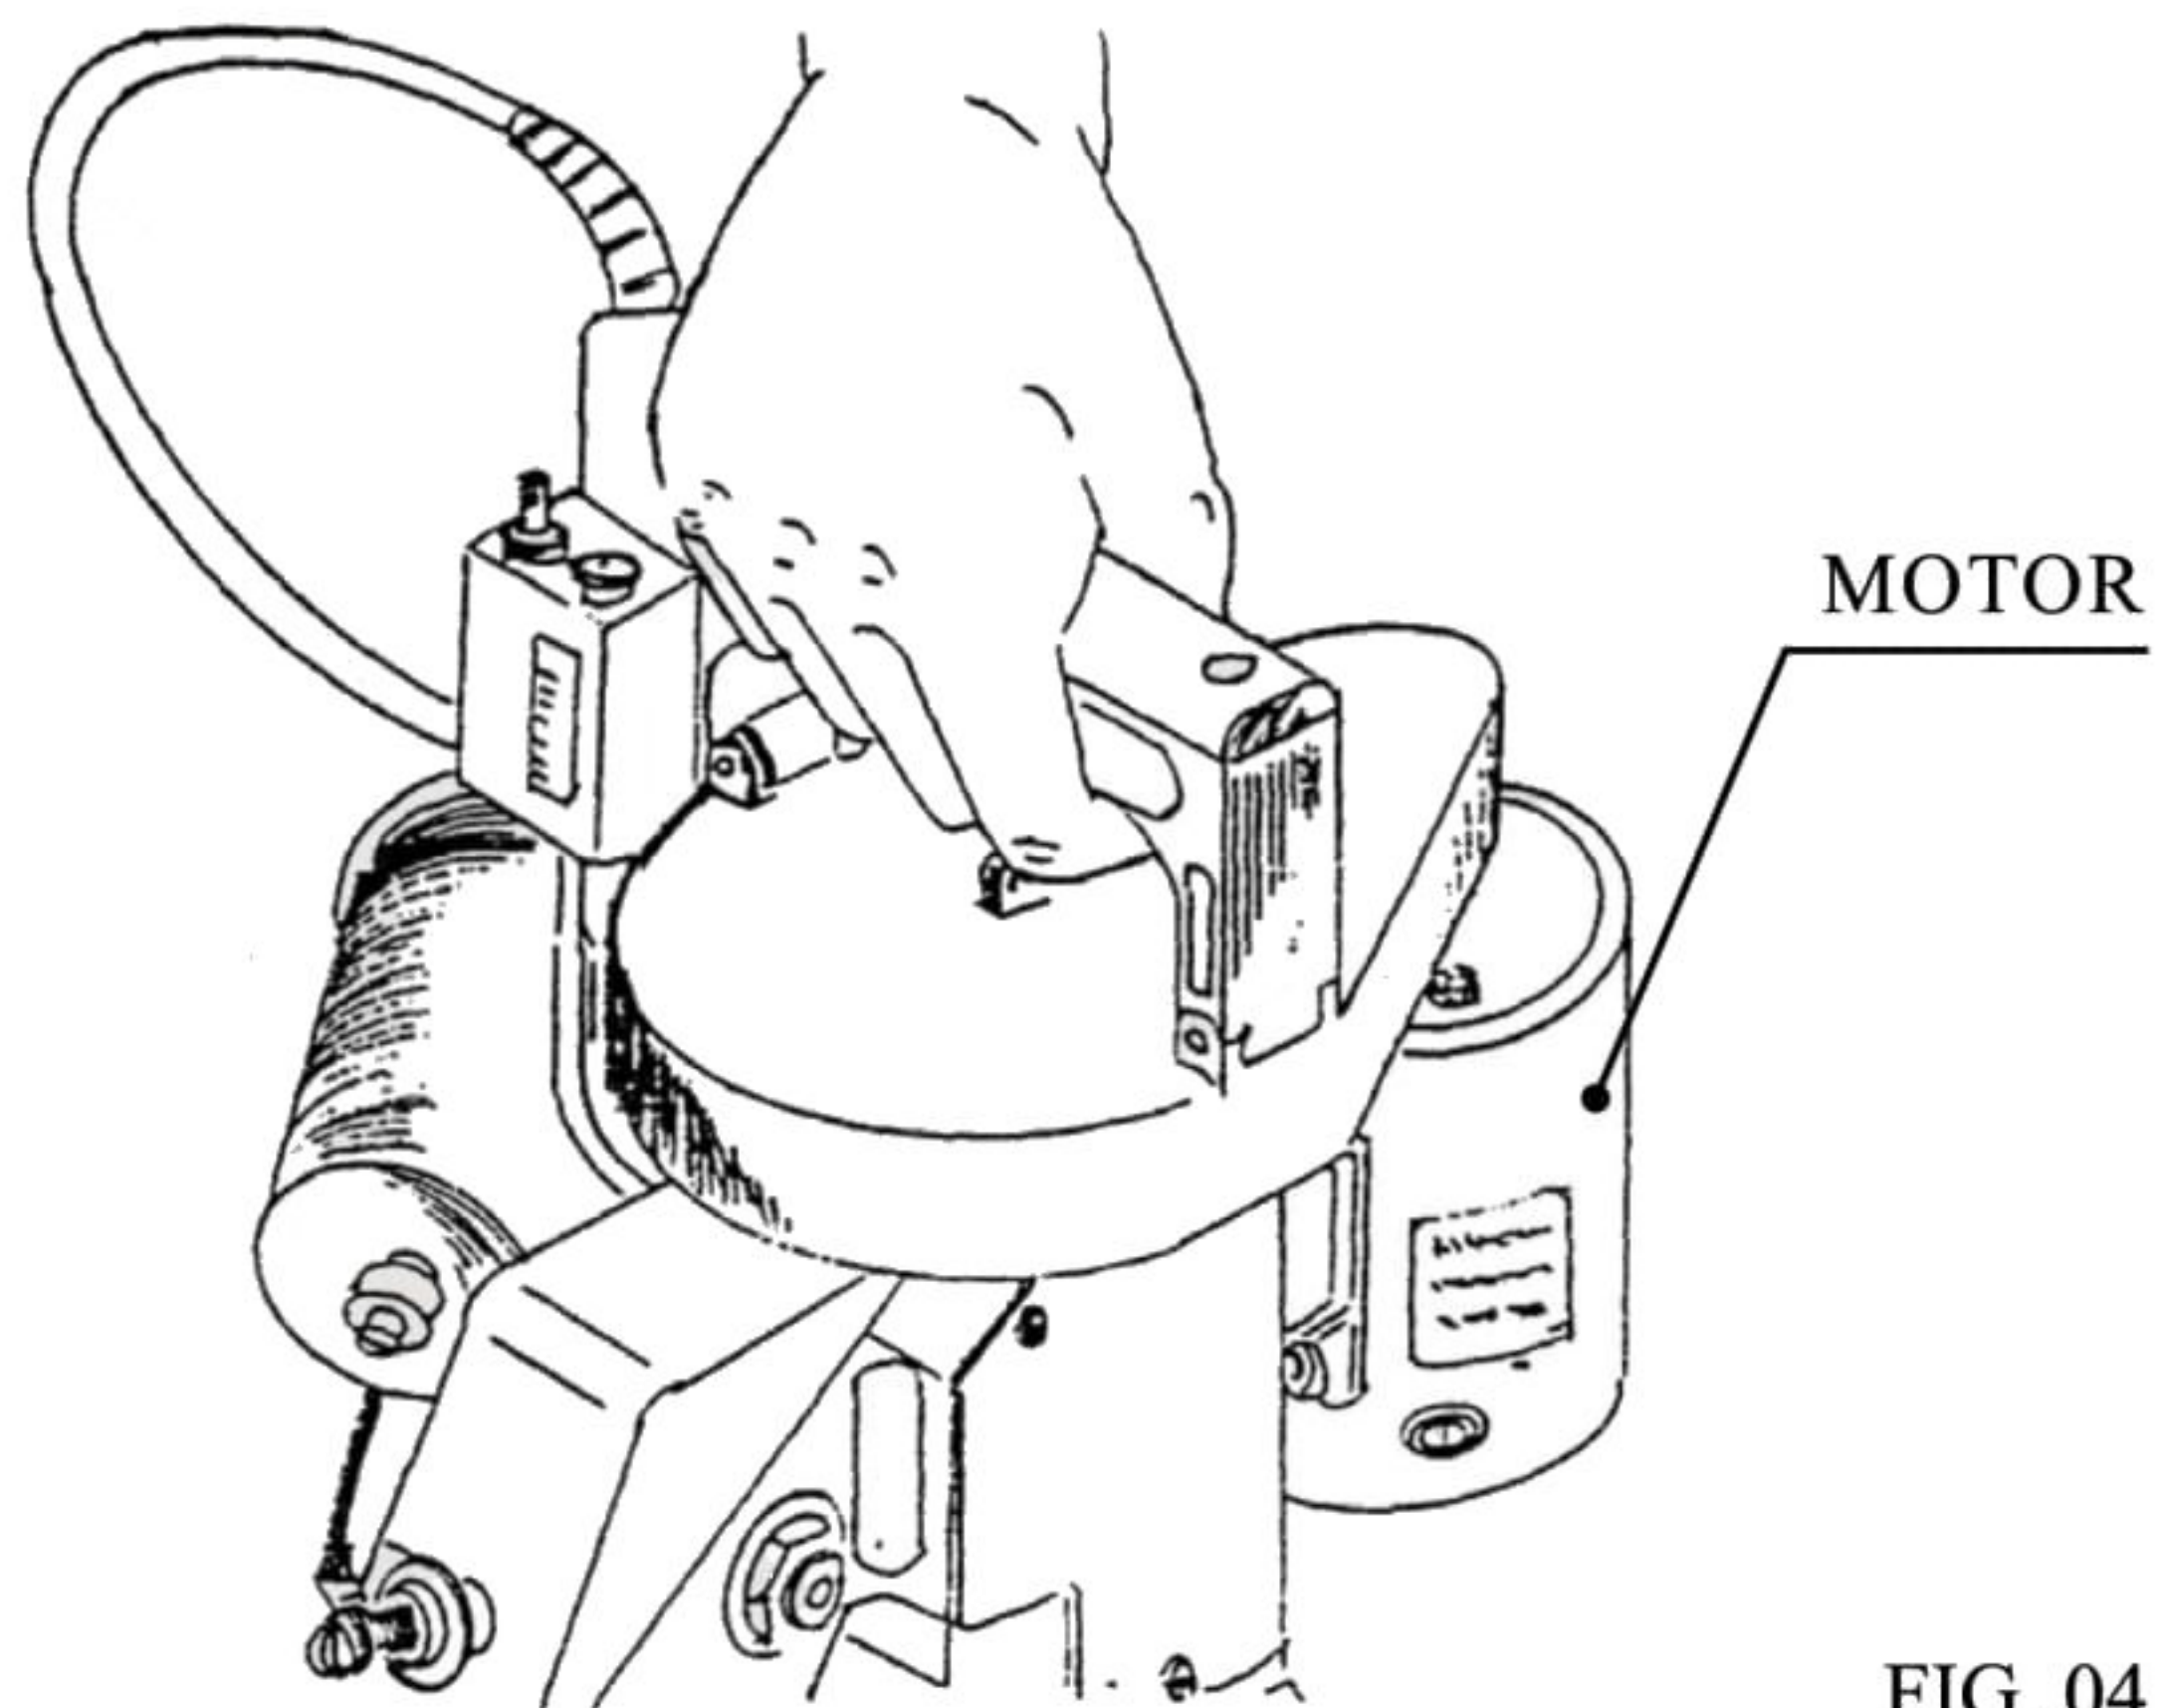
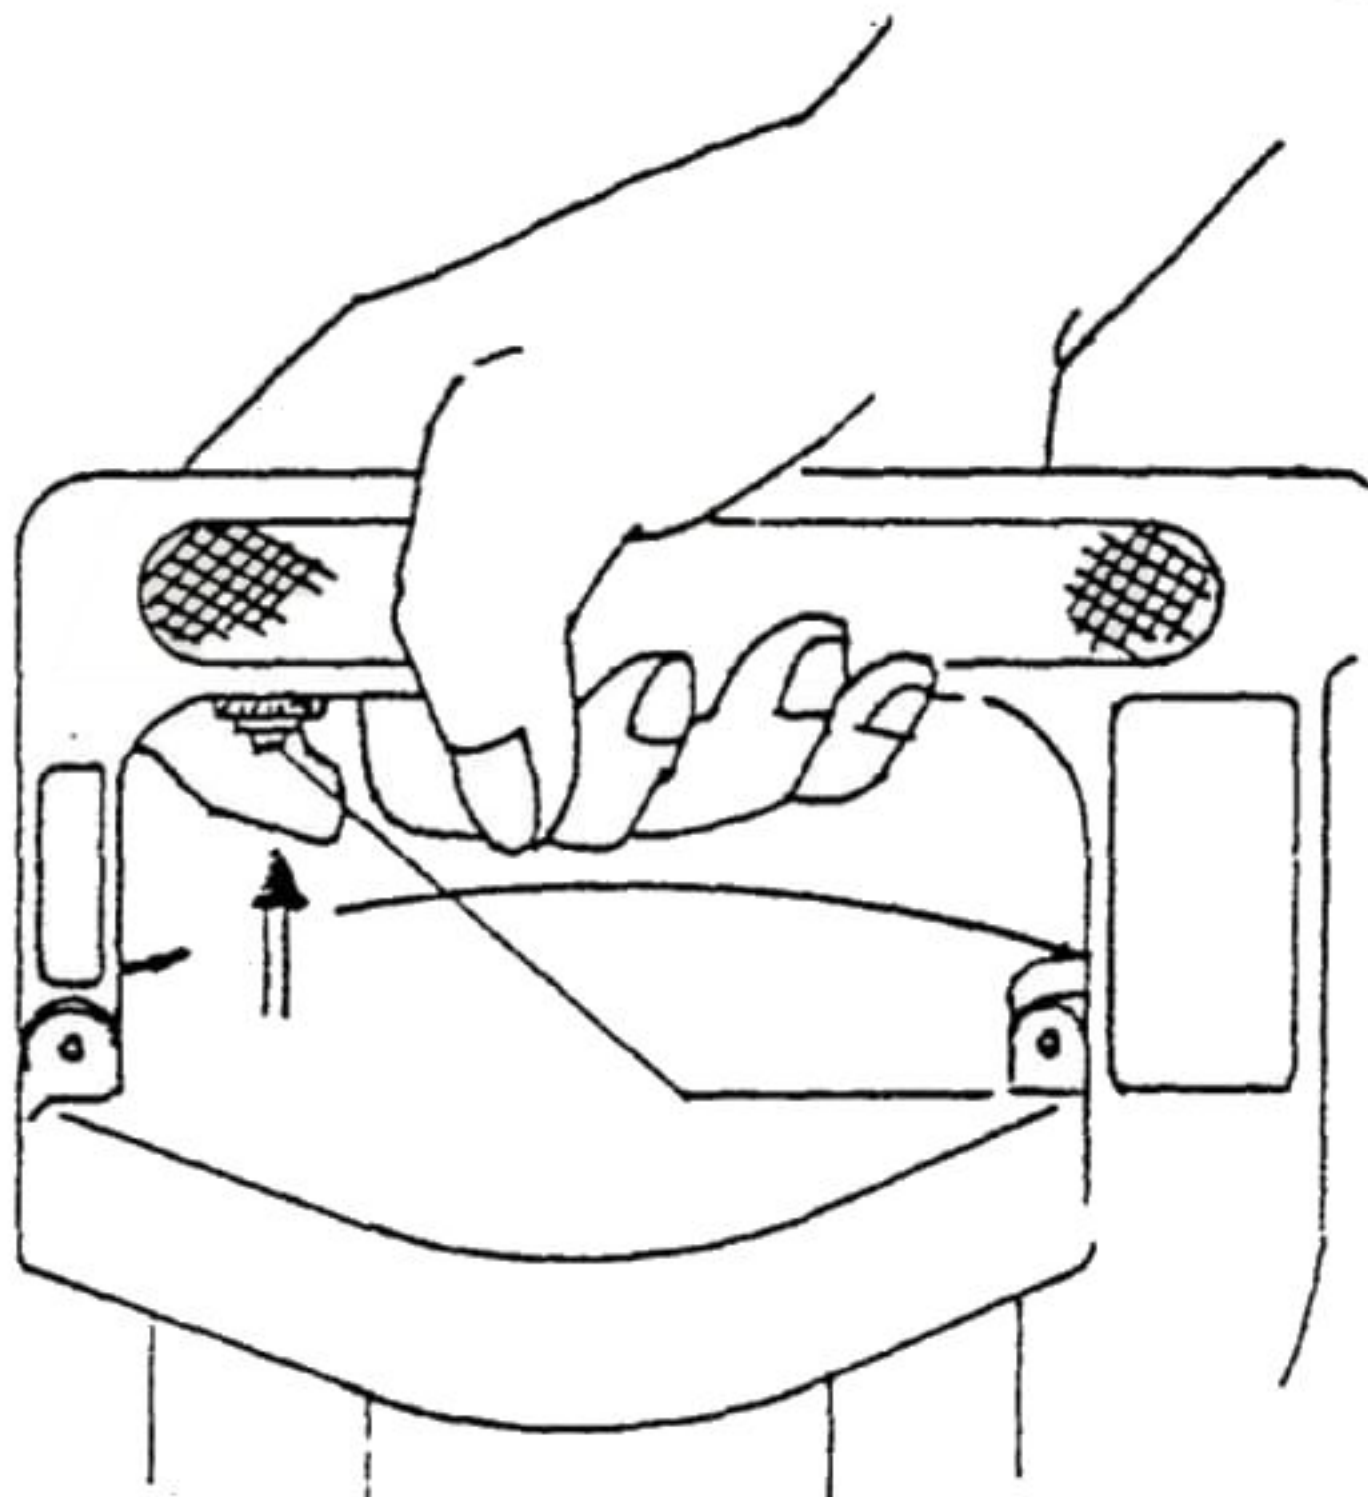

FIG. 04
FIG. 04-1
10. Operation of machine.(See also Fig.04 & Fig.04-1)